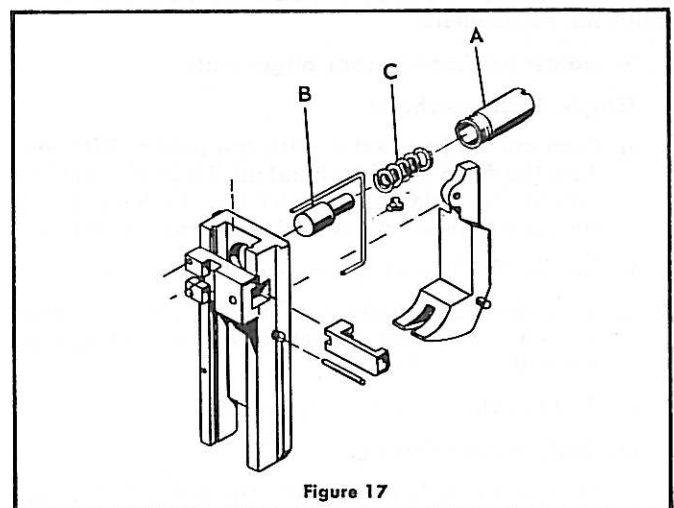

Figure 17
Replace the bender bar assembly. (See Section E or Figure 17.) Other bender bar functions are related to wire cutting (Section J), and driving (Section G).
E. Bender Bar Friction Plug And/Or Spring (Fig. 17)